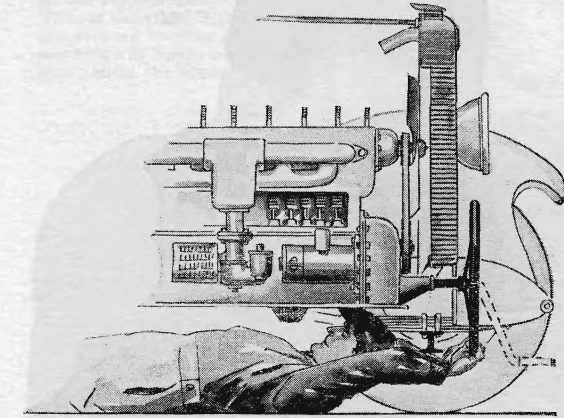

Fig. 1. How to attach hand crank to old steering wheel and save time in adjusting connecting rod bearings.
**M**ANY jobs around a car make a man wish he could be in two places at once. Adjusting connecting rod bearings is one of them because it is necessary to crawl out from underneath the car every time you want to turn the crank to a different position. Fig. 1, above, shows a simple way to turn the crank and remain under the car. Get an old steering wheel and fasten it to a spare hand crank.